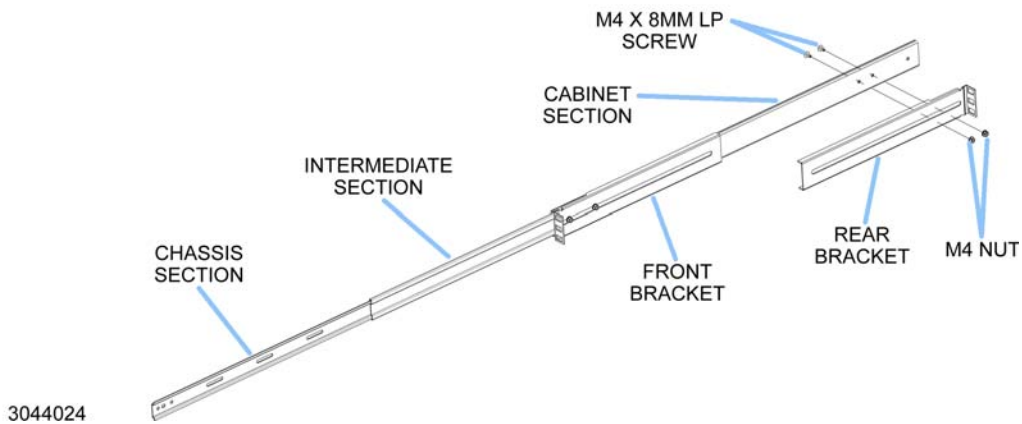

FIGURE 1. CHASSIS SLIDES COMPONENTS, SHOWN EXTENDED
1. The slides are shipped pre-assembled, except for the rear bracket (see Figure 1).
5. Attach rear bracket to each cabinet section using M4 X 8mm LP screws and M4 threaded nuts as shown in Figure 1 (hand tighten only)